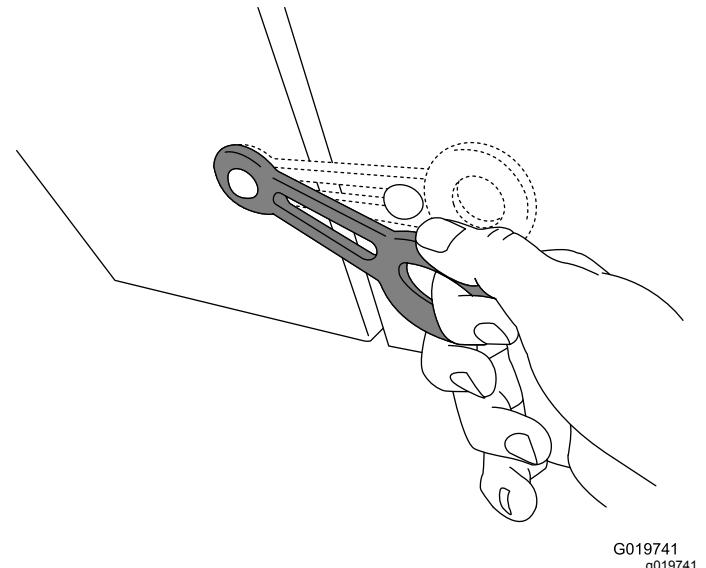

Figure 14
4. Close the engine cowl and secure the cowl latches (Figure 14).